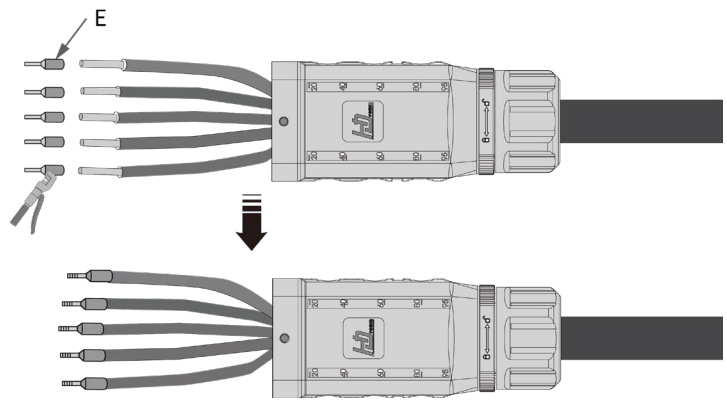

Fig. 17. Make the cable and crimp core end termina
7. Insert the copper wire into a suitable terminal and crimp it.(see Fig. 17) .
2. Insert the wires into the connector according to the line sequence [Figure 17], checking that the wires are correctly positioned by means of the viewing hole. Then tighten the screws on the contact carrier [$\times A_3$ / 3.0 Nm].